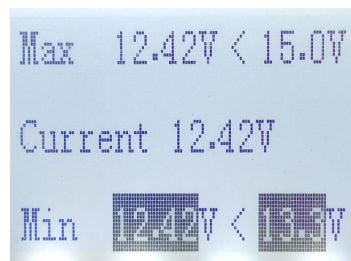

Figure 19
(3) According to the display content, increase the engine speed, reach the specified speed position, press the OK key to test as shown in Figure 19: